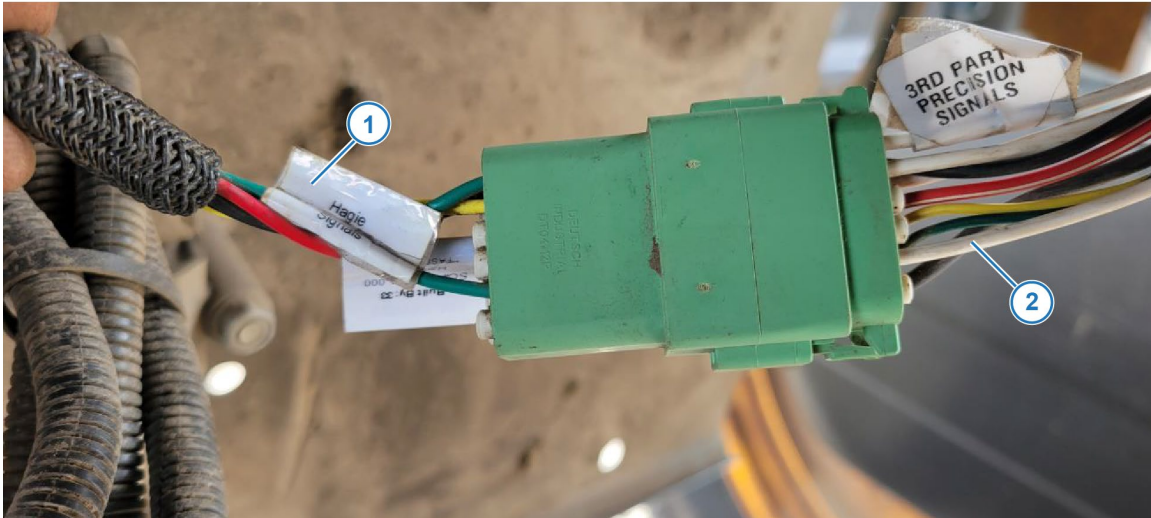

Figure 10 — Hagie Signals Connector
14. *Figure 10:* Connect 12-pin Deutsch connector marked Hagie Signals (1) of Adapter Harness to green 12-pin Deutsch connector hanging near center of belly pan (2).